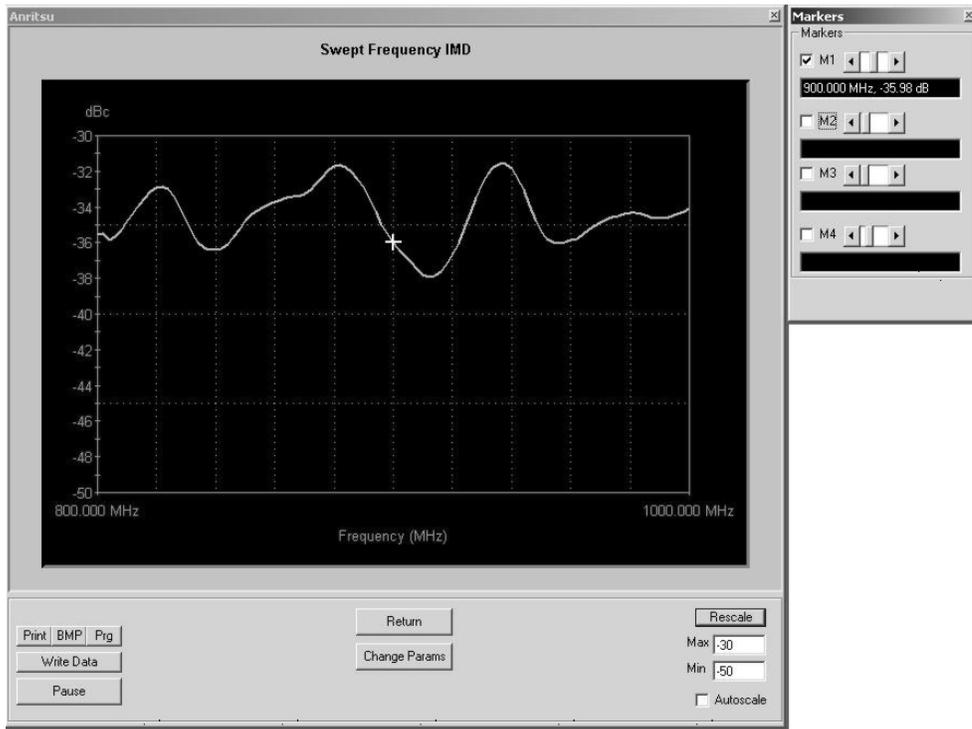

Figure 5-11. Swept Frequency IMD
- **Select Start Test:** Observe that the test screen (Figure 5-11) appears.